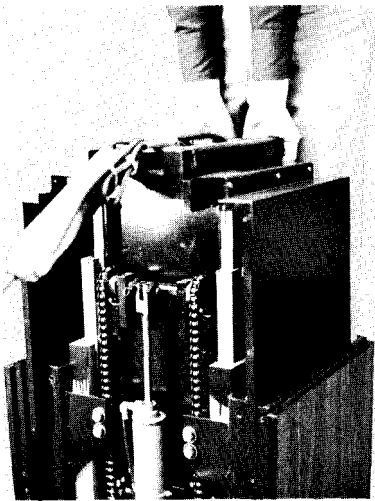

Fig. 27
Have an assistant lift on the base sliding member as shown Fig. 27 so the weight is relieved on the clevis pin and the clevis pin may be removed, then lower the sliding member slowly.
- 17) Have an assistant lift on the sliding member as shown Fig. 27 enabling the clevis pin (rod end) to be inserted and clip installed.